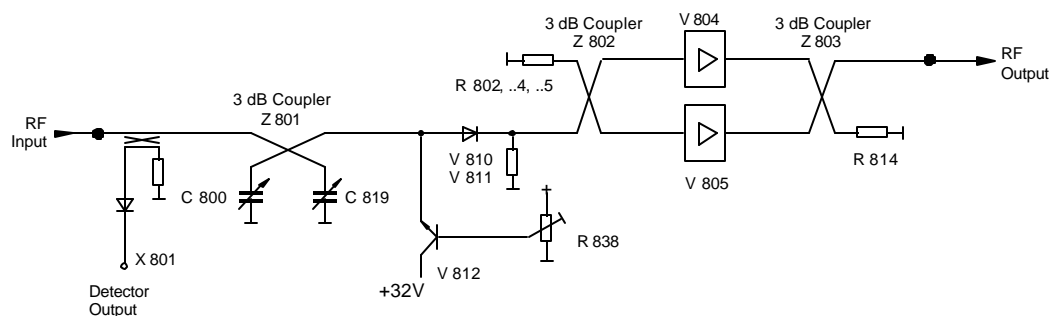

Figure 4-1: 40 Watt UHF Amplifier Module
The output of the UHF filter is connected to the input J1 of (A2) the 40 Watt UHF amplifier assembly (Figure 4-1). The assembly is made up of a (51-5378-308-00) module, which operates class AB and is a highly linear broadband amplifier for the frequency range of 470 to 860 MHz. It can deliver an output power of 40 watts (CW) with approximately 14 dB of gain.